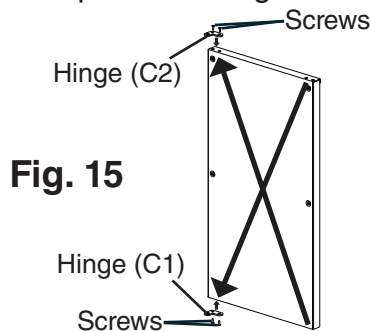

Fig. 15
f) Remove hinge (C1) from the top right part of the door, flip it and reattach to the bottom left. Remove hinge (C2) from the bottom right part of the door, flip it and reattach to the top left. See Fig. 15. Proceed to step 7.